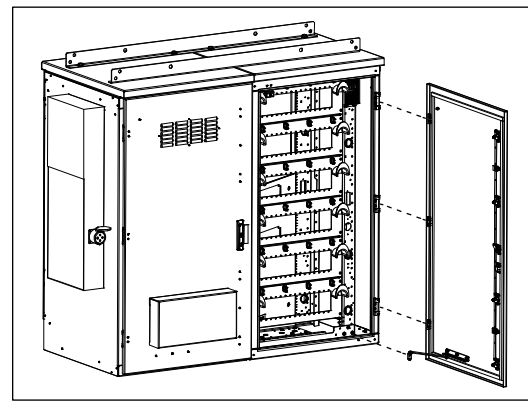

Figure 5 Remove Door
4. Remove the door from the MC-1 (Figure 5). The hinge plates remain on the door. The hinge bases remain on the MC-a door frame.